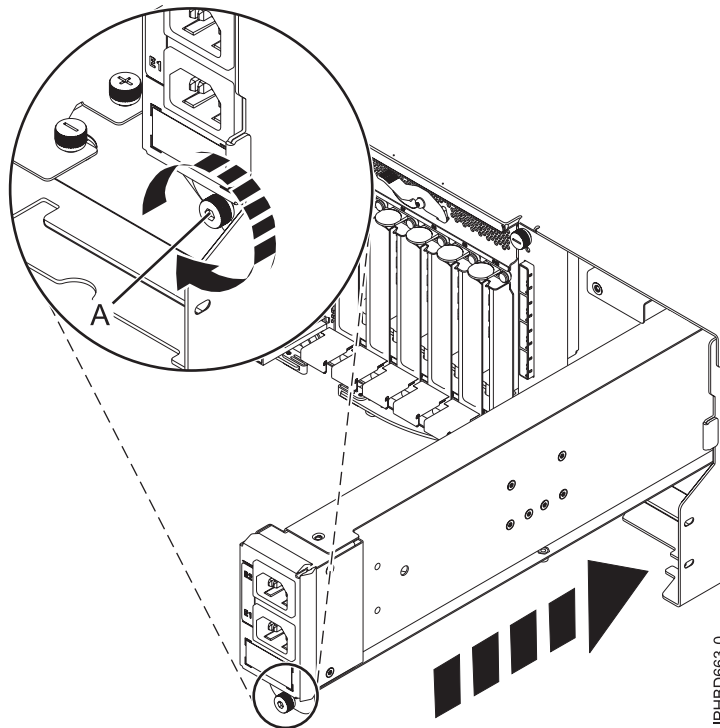

Figure 28. Replacing an input power distribution assembly
5. Push the input power distribution assembly into the expansion unit until it latches into place, and then tighten the thumbscrew (A) to secure the assembly in place as shown in Figure 28.